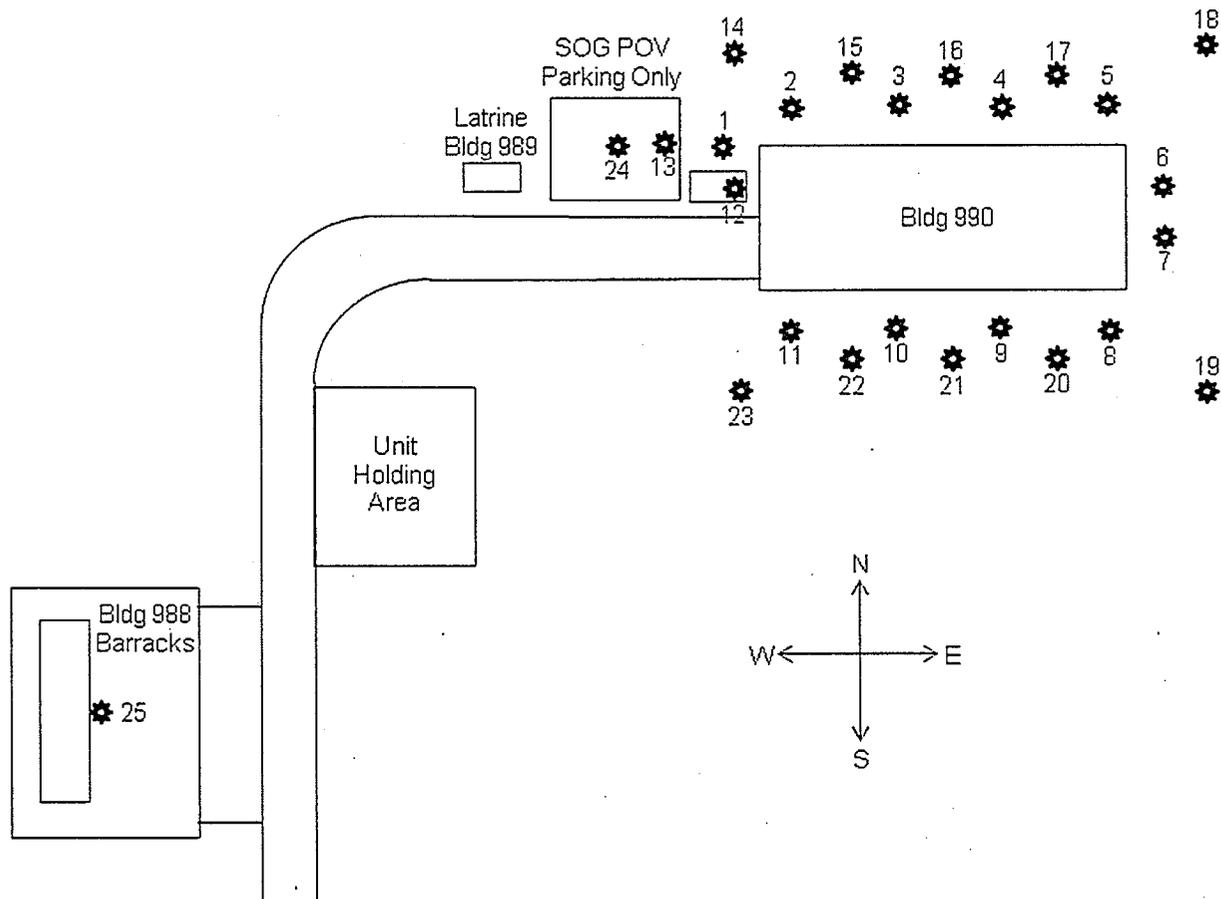

Figure 10-5, AHA light pole diagram
- (1) Call the ASP, 239-4102 or 239-4962, if lights are not working properly.
- (2) Helicopter warning lights have two (2) red lights on top of poles 14, 16, 18, 19 and 23, (see figure 10-5). Both lights must be working.